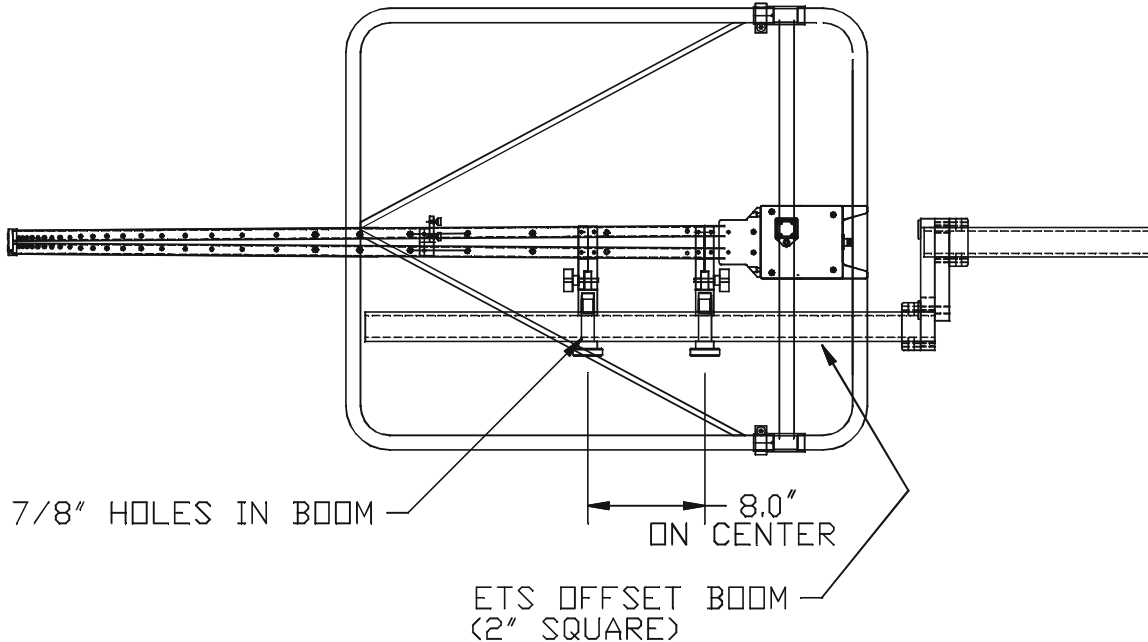

FIGURE 6 – Attachment of Model 3140 to perforated offset boom.
Step 2. The antenna can be mounted on standard ETS-Lindgren perforated cross booms using two 7/8" mount knobs through the 2" square boom (see Figure 6).